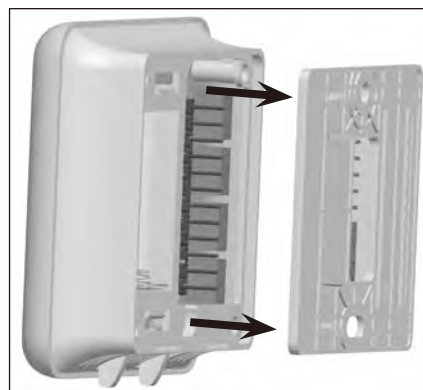

Figure 5.
1. Remove the wall plate by pulling it straight off the back of the Thermostat. Figure 5.